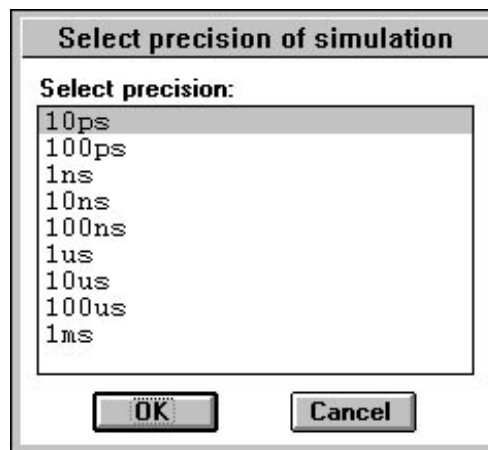

Figure 1-44. Selecting Simulation Precision.
3. The desired simulation precision from the **Select Precision of Simulation** window shown in Figure in Figure 1-44.